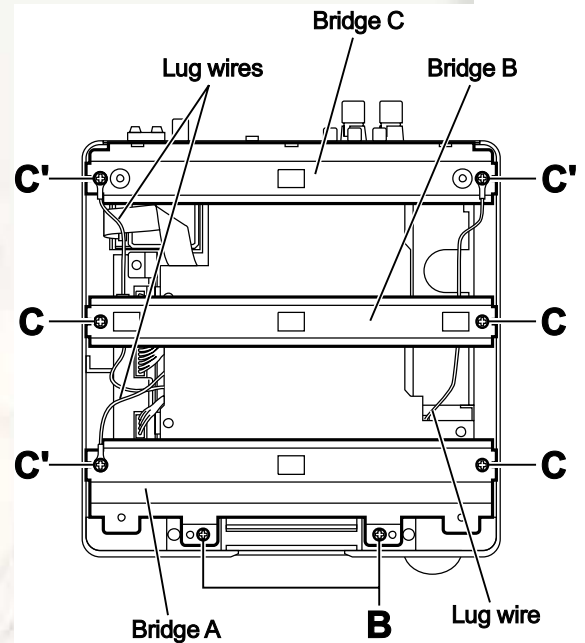

Fig.2
3.1.2 Removing the AL panel L and AL panel R (See Figs.2 to 7.)
- (1) Remove the two screws **B**, screw **C** and screw **C'** attaching the bridge A. (See Fig.2.)
(See Fig.2.)
- (2) Remove the two screws **C** attaching the bridge B. (See Fig.2.)
- (3) Remove the two screws **C'** attaching the bridge C. (See Fig.2.)
When attaching the screws **C'** attach the lug wires with them. (See Fig.2.)